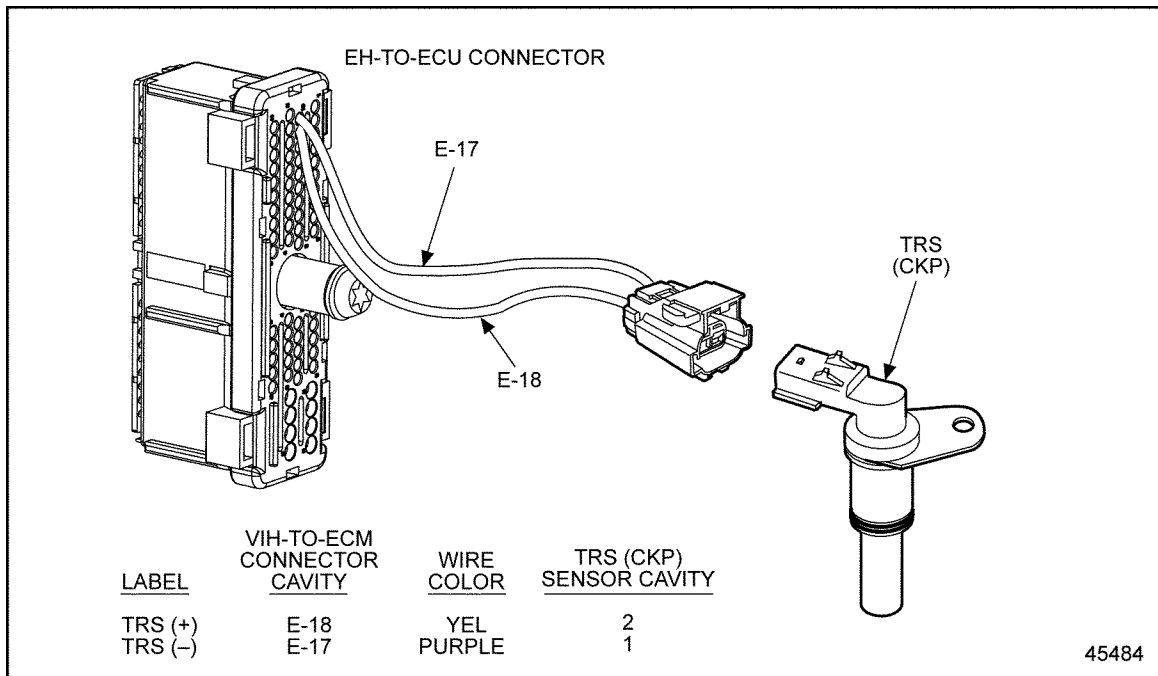

Figure 44-4 Engine Harness Connector to Crankshaft Position Sensor
2. Measure resistance between sockets E-17 and E-18 on the Engine Harness connector. See Figure 44-4.
2. Install a jumper wire between sockets 1 and 2 of the TRS/CKP harness connector. See Figure 44-4.